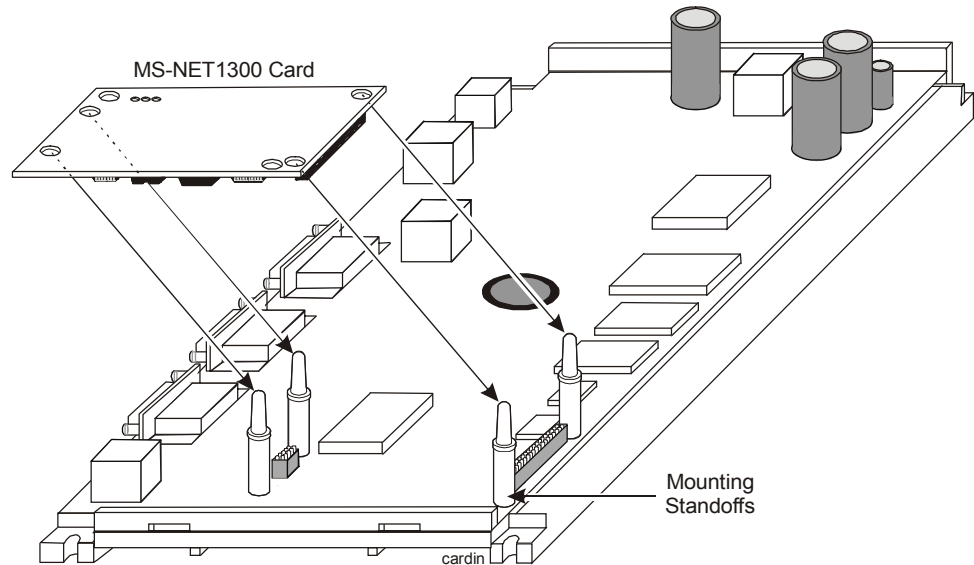

Figure 16: N30 Circuit Board
- Place the new card over the four standoffs (Figure 16). Make sure the card mounting holes center over the standoffs and the integrated circuitry faces down. Press down firmly on the card to snap it into place.